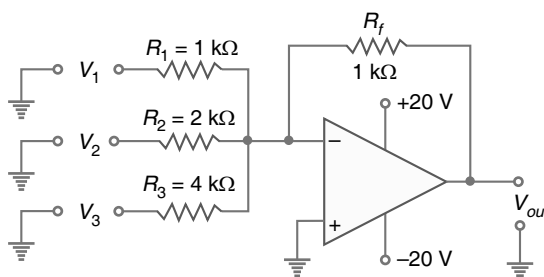

Fig. 23.75
**Example 23.48.** Determine the output voltage from the circuit shown in Fig. 23.75 for each of the following input combinations :